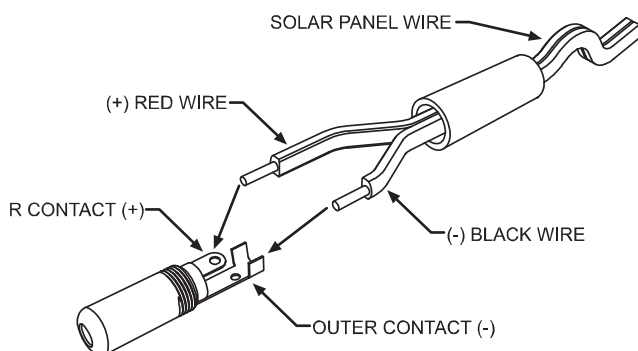

Figure 4-1 Typical DC Coaxial Connector Connection
2. Connect the solar panel's black negative (–) wire to the plug's outer contact. See Figure 4-1.